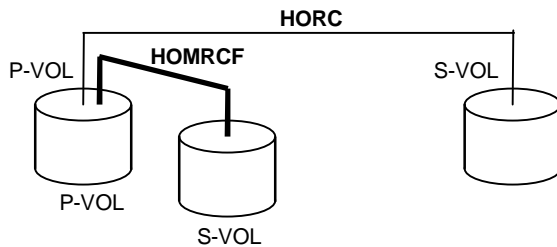
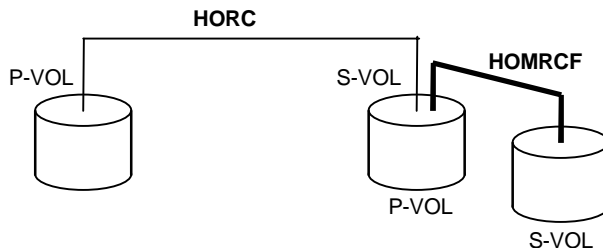
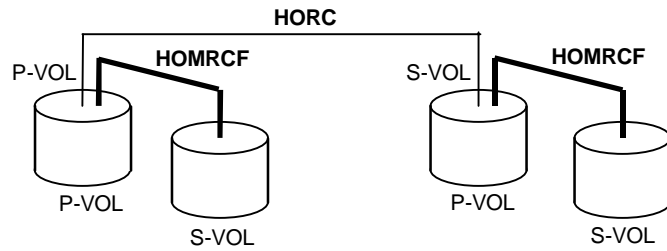

Figure 3.16 Shared HORC P-VOL/HOMRCF P-VOL
Figure 3.17 Shared HORC S-VOL/HOMRCF P-VOL
Figure 3.18 Shared HORC P-VOL/HOMRCF P-VOL with Shared HORC S-VOL/HOMRCF P-VOL
- Figure 3.16 shows an example of a HORC P-VOL which is also functioning as a ShadowImage (HOMRCF) P-VOL. This configuration allows you to use ShadowImage for on-site data backup in case of a HORC failure, and to use HORC to provide remote backup of the ShadowImage P-VOL in case of a ShadowImage failure.
- Figure 3.17 shows an example of a HORC S-VOL which is also functioning as a ShadowImage (HOMRCF) P-VOL. This configuration allows you to use ShadowImage to provide multiple backup copies of a single HORC P-VOL.
- Figure 3.18 combines the configurations shown in Figure 3.16 and Figure 3.17. Within a single HORC pair, the P-VOL and S-VOL are both functioning as ShadowImage P-VOLs, providing multiple copies at the primary and remote sites.